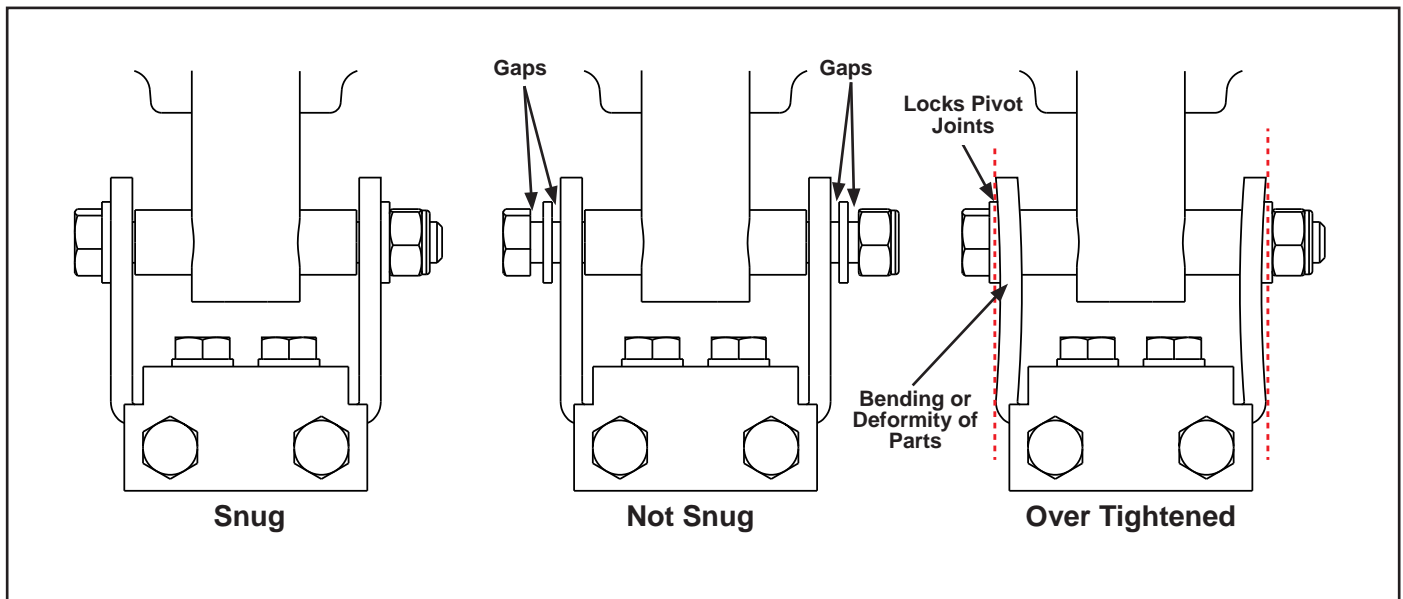

Figure 2-6
*Snug is defined when bolt, nut and washers all make firm contact with mating faces. Snug tight is the condition that exists when all plies in a connection have been pulled into firm contact and no space between them by the bolts in the joint. Over tightening of fasteners can cause bending or deformity of parts and/or lock joints that need to pivot. See Figure 2-6.